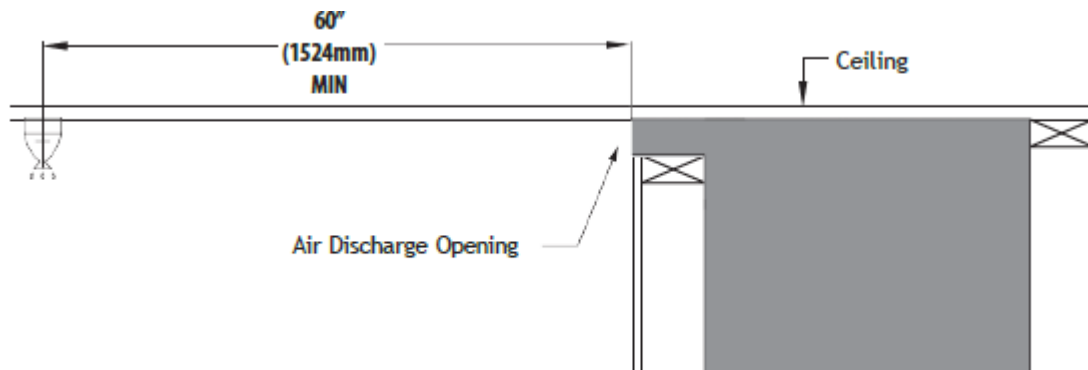

Figure 4.4 - Clearance from Air Discharge Opening to Sprinkler Head - Vented Cavity Appliance Installations Only
- In a situation where a sprinkler head installed within the proximity to a vented cavity air discharge opening, Figure 4.4 must be followed.